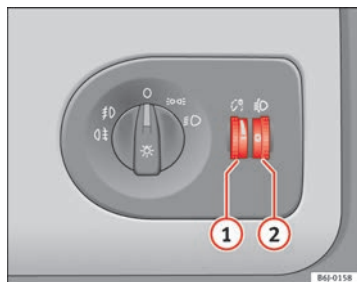

Fig. 55 Dash panel: regulation for instrument and switch lighting and headlight range control
When the headlights are switched on, the brightness of the instruments and switch lighting can be regulated to suit your requirements by turning the thumb wheel ⇒ Fig. 55 ①.